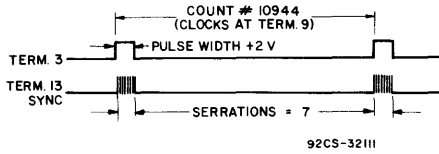

Fig. 4 - Asynchronous non-coincident divide ratio (applies to all tests referenced to Note 12).
12. Sync serrations = 8 (See Fig. 4)